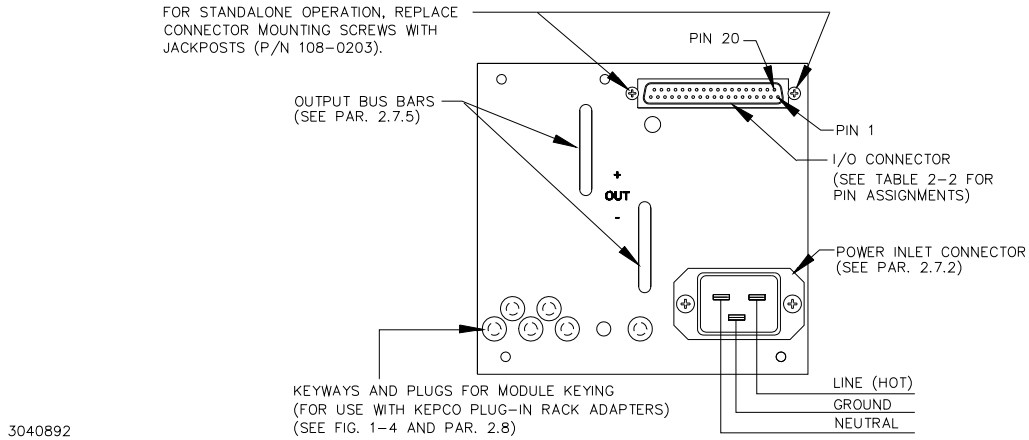

FIGURE 2-3. HSP SERIES REAR PANEL CONNECTIONS
c) **Rear Panel:** Refer to Figure 2-3 and Table 2-2.
The rear panel of the HSP power supply is equipped with an IEC 320 style recessed power inlet connector which provides interface to a 3-wire safety line cord via a polarized mating plug. Kepco offers as accessories (see Table 1-3) both a user-wired mating connector and a prewired linecord set, the latter configured for North American applications. Terminal assignment follows internationally accepted conventions (see Figure 2-3). It is the user's responsibility to ensure that all applicable local codes for source power wiring are met.